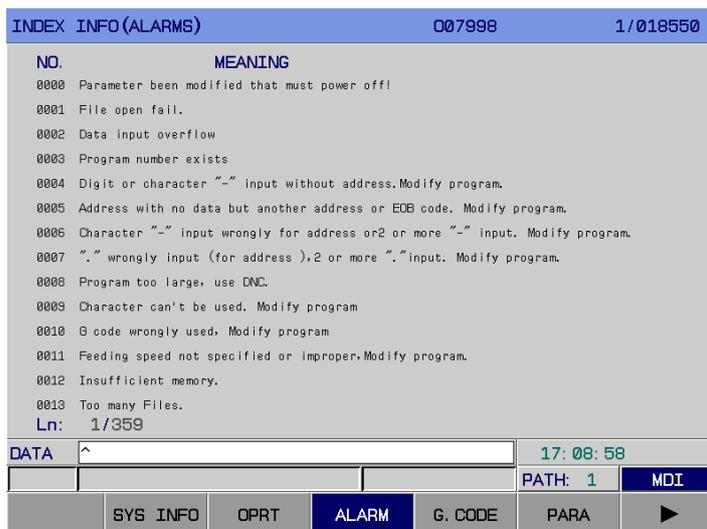

Fig. 3-9-3
3. ALARM page In <HELP> page, press soft key **【ALARM】** to enter this page. See Fig. 3-9-3: